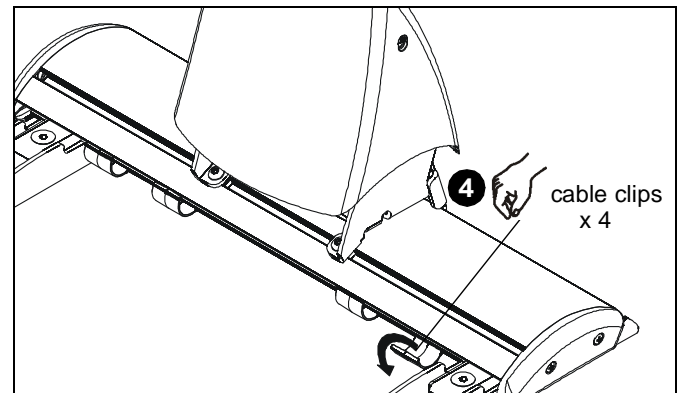

Figure 22
4. Open cable clips along bottom edge of wall bracket cross bracket (See Figure 22)